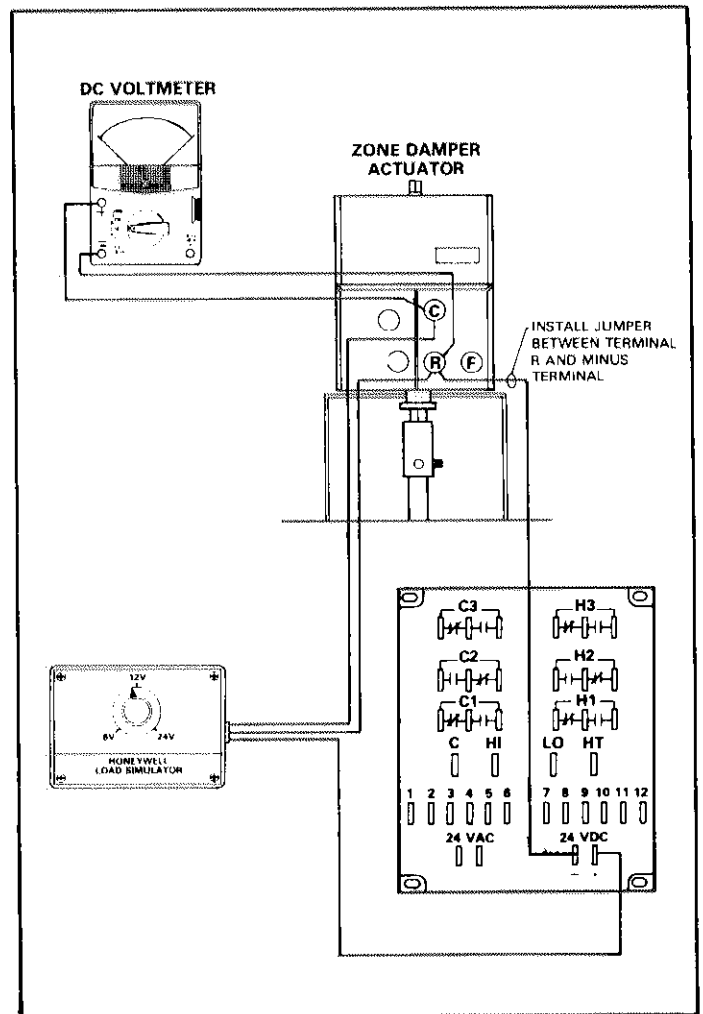

FIGURE 119
- b - Set Load Simulator by aligning thumbwheel mark with null indicator. See Figure 119.
- d - Connect Load Simulator and DC voltmeter leads as shown in Figure 119.